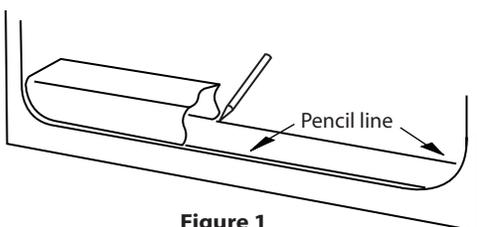

Figure 1
1. Put the Adaptor in place and trace a pencil line around it on the shower bottom. See Figure 1